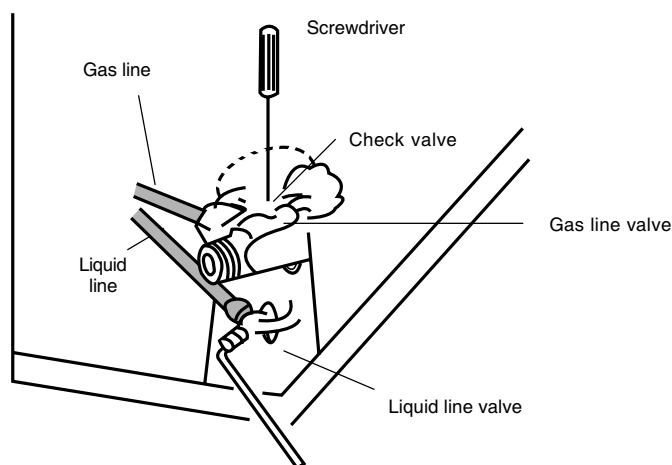

Figure 14
8. Open the liquid valve and gas valve entirely (shown in Figure 14).